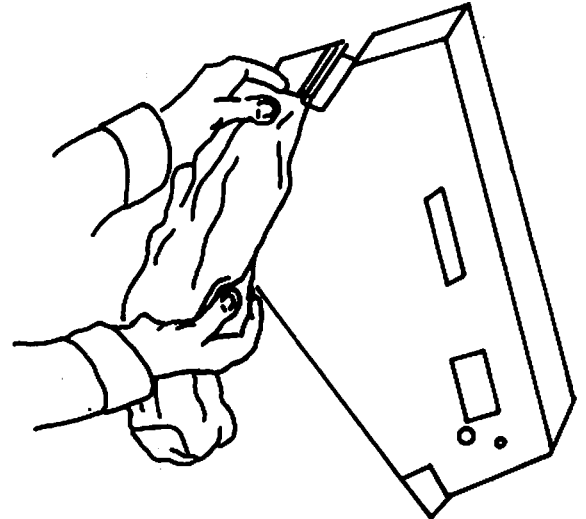

FIGURE 16. UNLOADING HOPPERS
1. Place opening of bag over mouth of hopper wrapping lip of bag around handle. Grasp bag and handle with one hand and slowly tip hopper forward while holding bag against front of hopper. (See Figure 16)